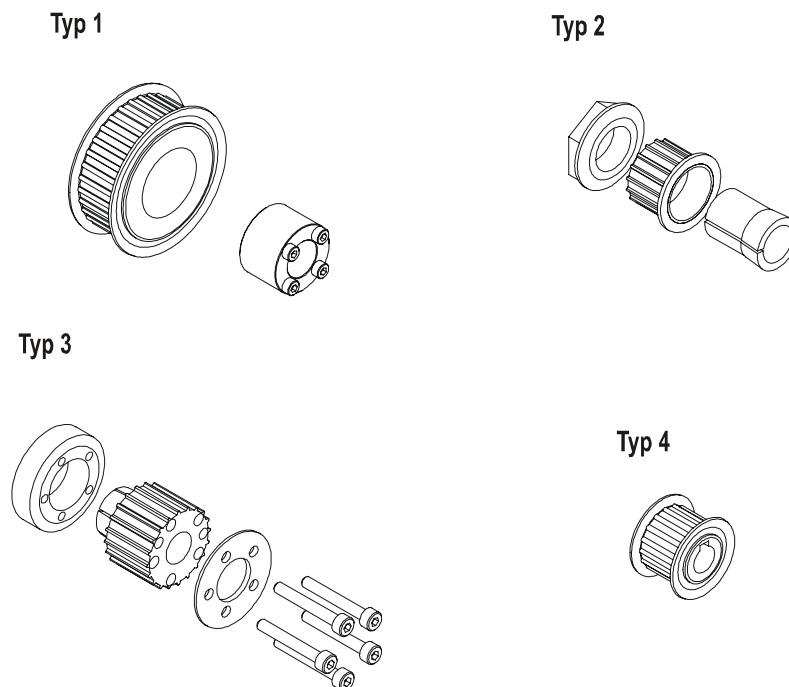

Figure 19: Variations of the Toothed Motor Pulley
The execution of the toothed motor pulley varies depending on the order (see Figure 19)
The execution of the toothed motor pulley varies depending on the order (see *Figure 19*)
- Pull the toothed motor pulley (*see Figure 19, page 27*) off the motor shaft and subsequently mount it on the new motor